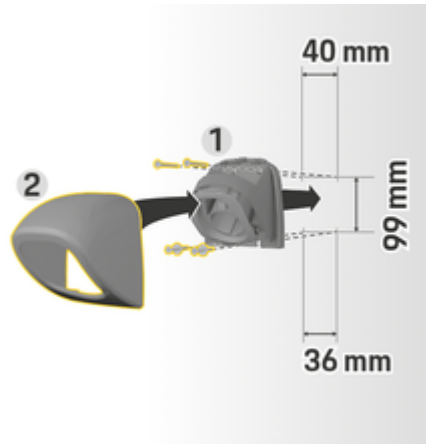

Fig. 15: Drilling dimensions
1. Remove the connector fastener **1** (Fig. 15) from the cover **2** (Fig. 15).
4. Screw the connector fastener **1** (Fig. 15) onto the wall.
5. Fit the cover **2** (Fig. 15) onto the connector fastener **1** (Fig. 15) from below and push up.